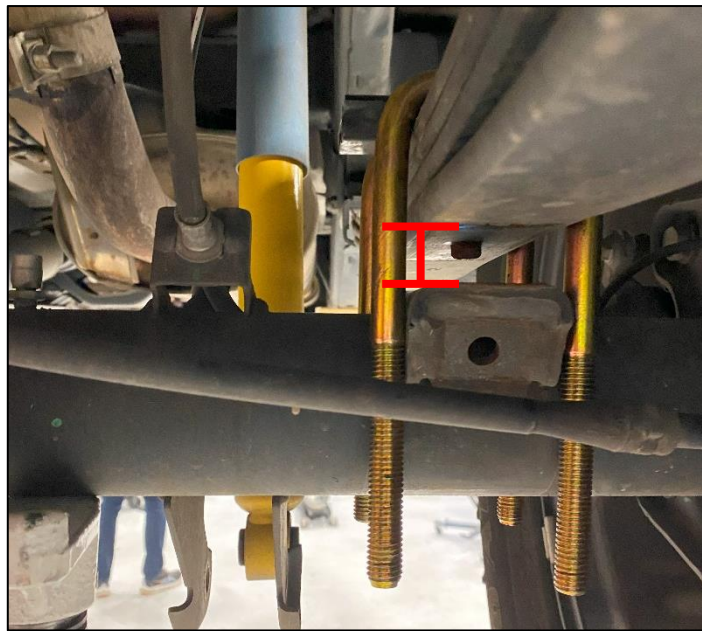

Figure 6
11. Slowly lower the Rear Axle with the Jack until there is enough room to fit in the Lift Block. *Figure 6.*